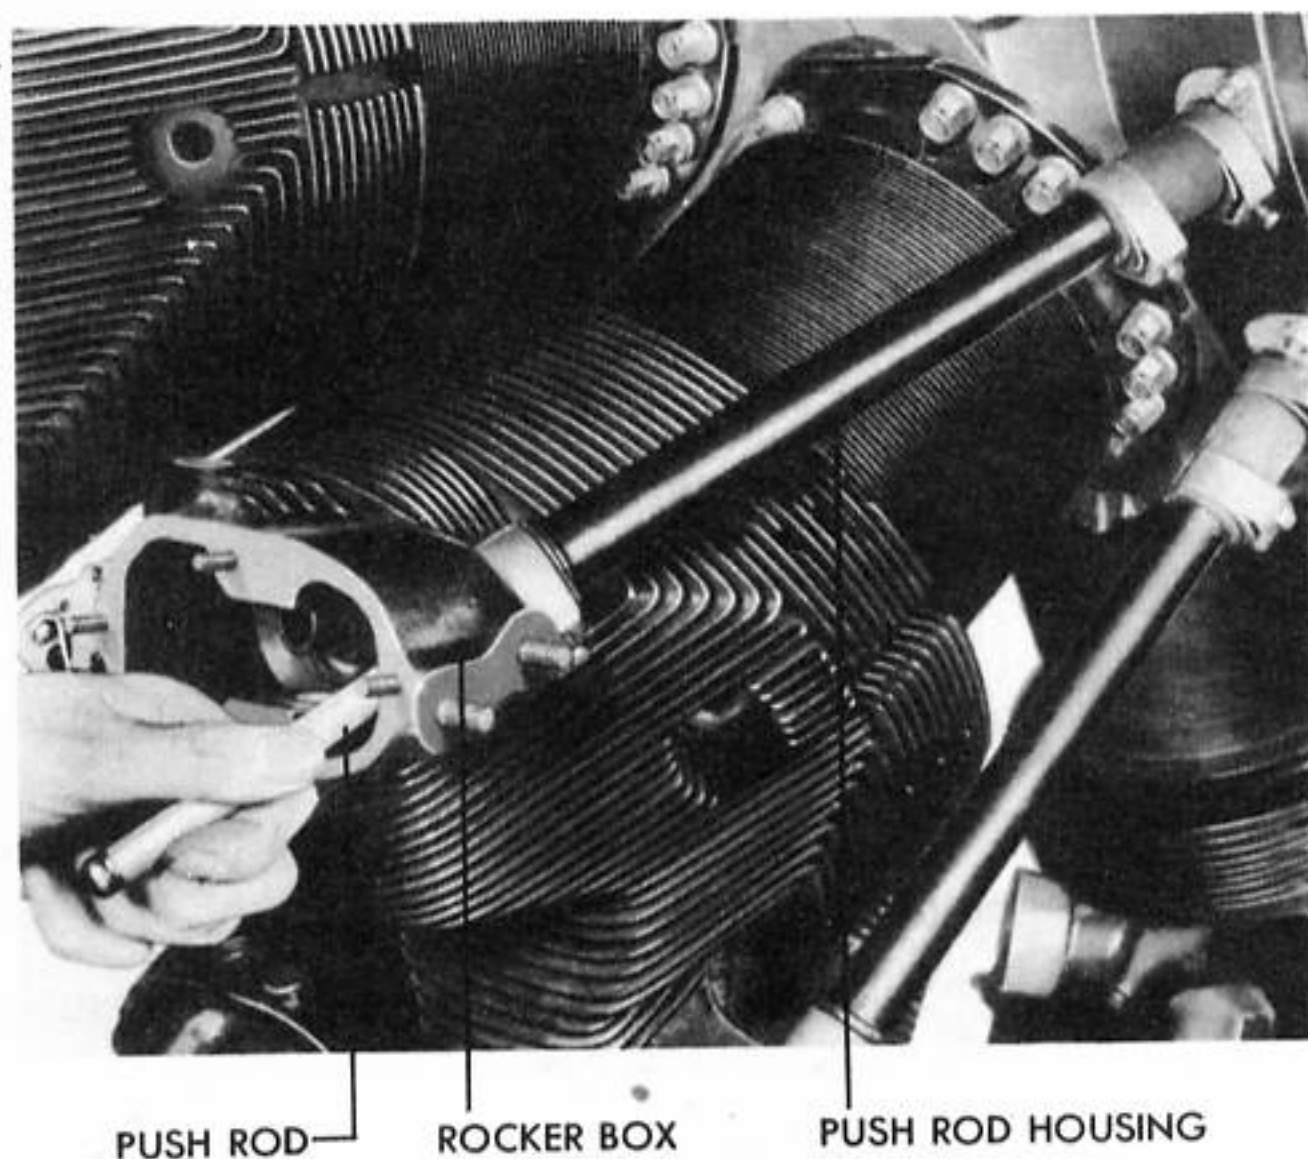

Figure 104 - INSTALLING PUSH ROD
b. Oil the push rod ball sockets with engine oil, and insert in push rod housing through the rocker box. (See figure 104.)